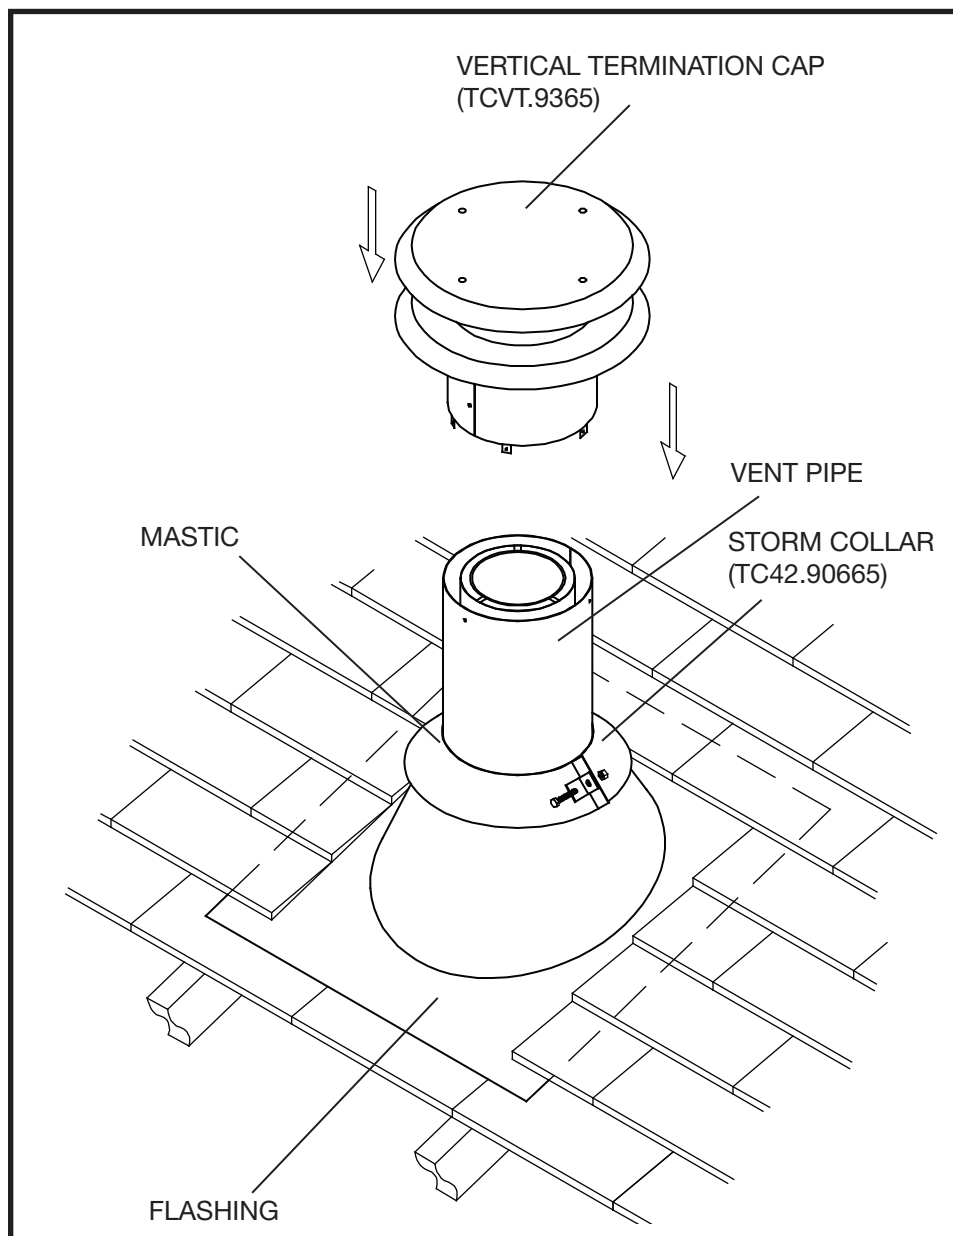

Figure 39: Roof vent terminal.
1. Place the roof flashing over the vent pipe, secure and seal it to the roof using the methods and materials appropriate for the type of roof on the building. Shingle roof example shown (Figure 39).
2. Place the storm collar down over the vent pipe until it is level. Tighten storm collar for a snug fit. Apply a thick horizontal ring of mastic around the pipe at top of the storm collar (Figure 39).
3. Lower the roof vent terminal cap over the vent pipe and secure in place with screws provided (Figure 39). Seal screw heads and joints with caulking to prevent any moisture entering the venting system.